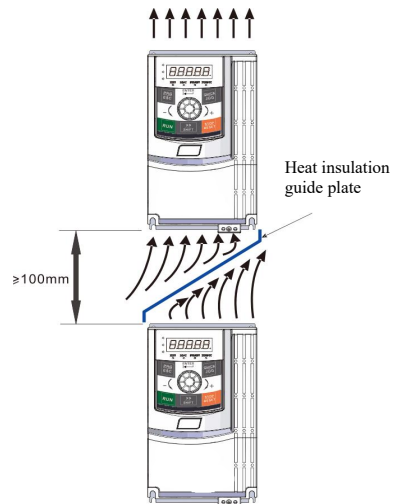

Figure 3-2. Installation diagram of VFD
1. Please install the VFD vertically to facilitate the upward dissipation of heat. However, it cannot be inverted. If there are many VFDs in the cabinet, it is best to install them side by side. In situations where it is necessary to install them up and down, please refer to the schematic in Figure 3-2 and install thermal baffles.